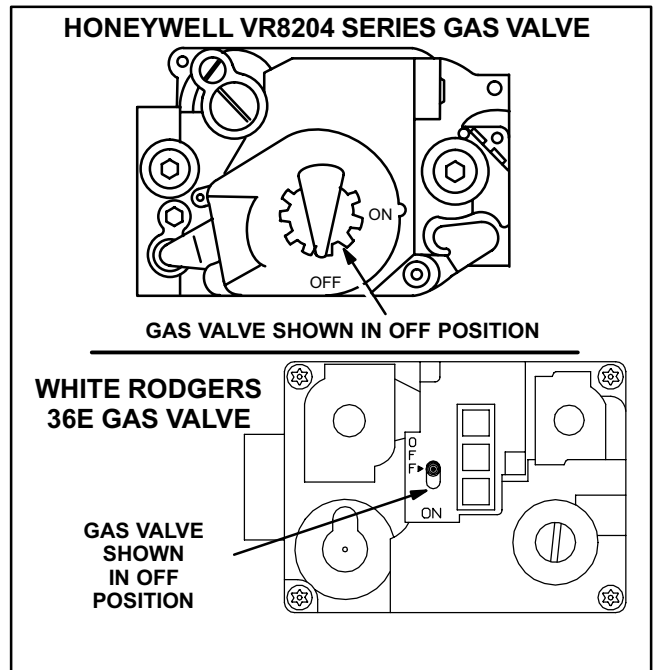

FIGURE 43
#### How To Operate Gas Valve (Figure 43)
- 6 - On Honeywell VR8204 gas valves, turn knob on gas valve clockwise ➡ to **OFF**. For White Rodgers 36E gas valves, move switch to **OFF**. Do not force. See figure 43.